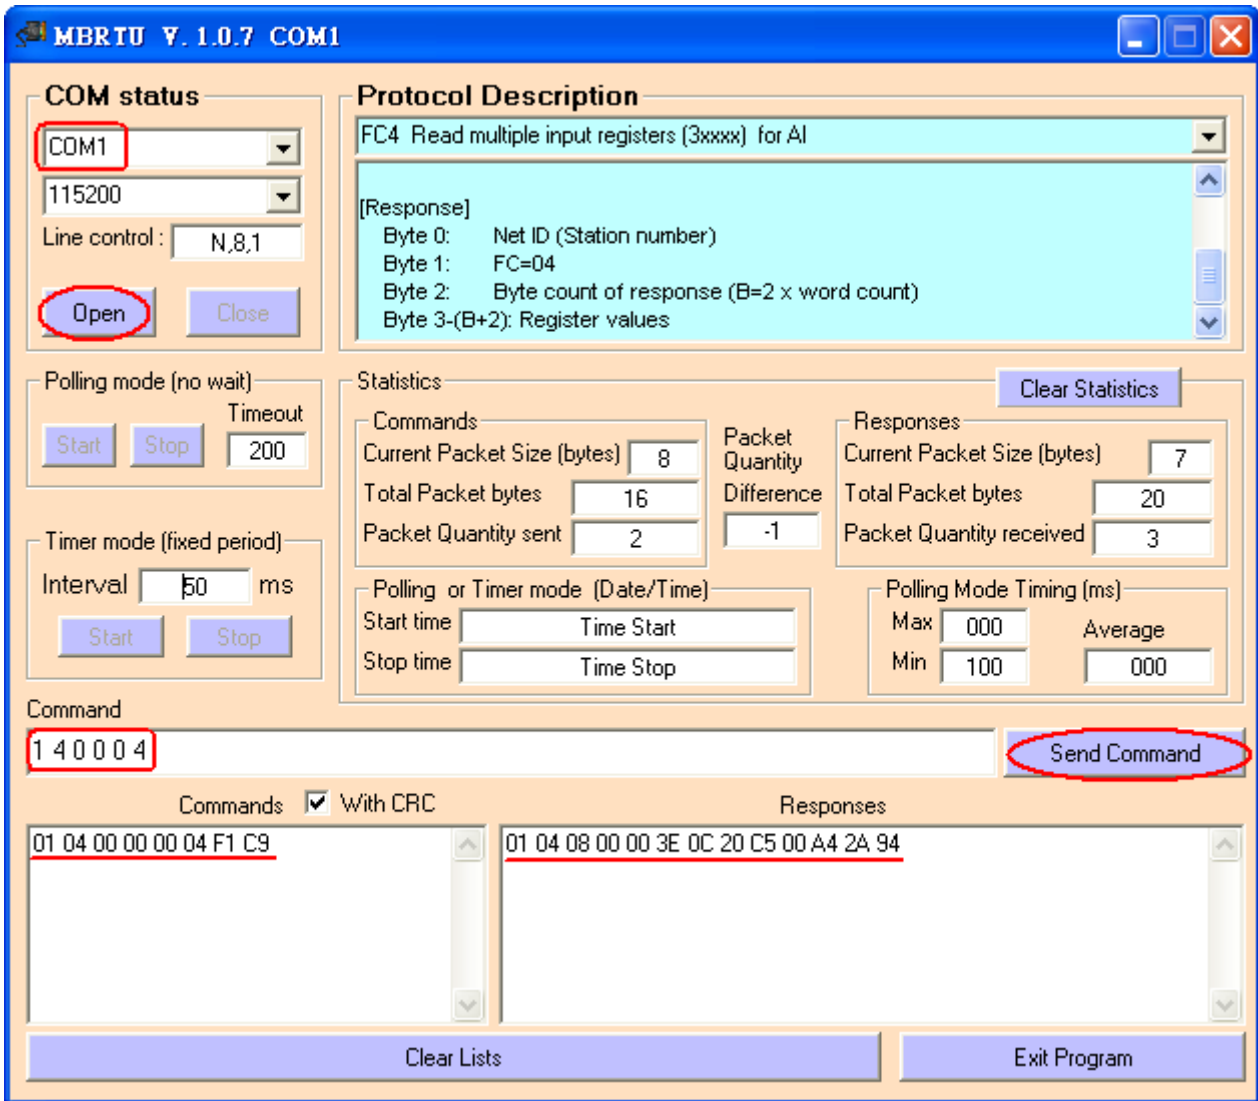

Figure 5-2 Receive HART Command 1 data
- (2) The below demo will use the free MB/RTU tool provided by ICP DAS to show HART command 1 data. (Download from http://ftp.icpdas.com.tw/pub/cd/8000cd/napdos/modbus/modbus_utility/)
- (3) Run “MB/RTU” tool. Set the com port settings the same with HART-710 (Baud Rate / Data Bits / Stop Bits / Parity) and then click “Open” button to connect to HRT-710 like Figure 5-2.
- (4) Input “1 4 0 0 0 4” in “Command” field and click “Send Command” button to send the modbus command. The HART command 1 data will be received in “Responses” field => “01 04 08 00 00 3E 0C 20 C5 00 A4 2A 94” like Figure 5-2.